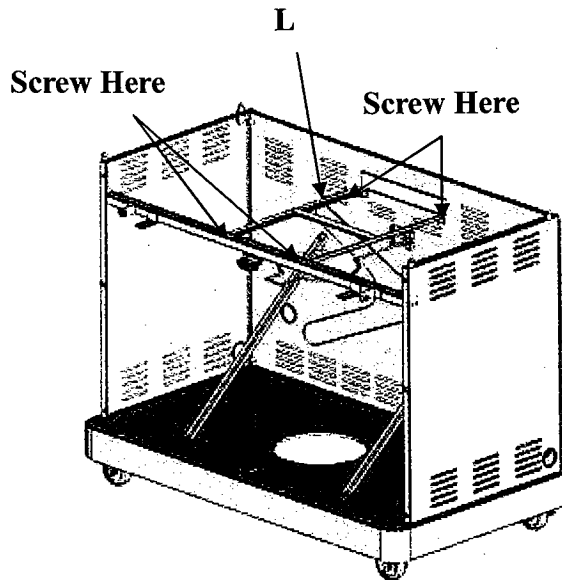

Fig. 10
Note: The drip tray support (L) should be installed with the opening ends facing each other. Align drip tray support with the holes in the beam (V). Insert two 1/4-20 x 5/8-in screws into the holes, and tighten them. Align drip tray supports with the holes in the rear panel. Insert the two 1/4-20 x 5/8-in screws through the holes in the drip tray support and the rear panel (M), and then tighten. (See Fig. 10)